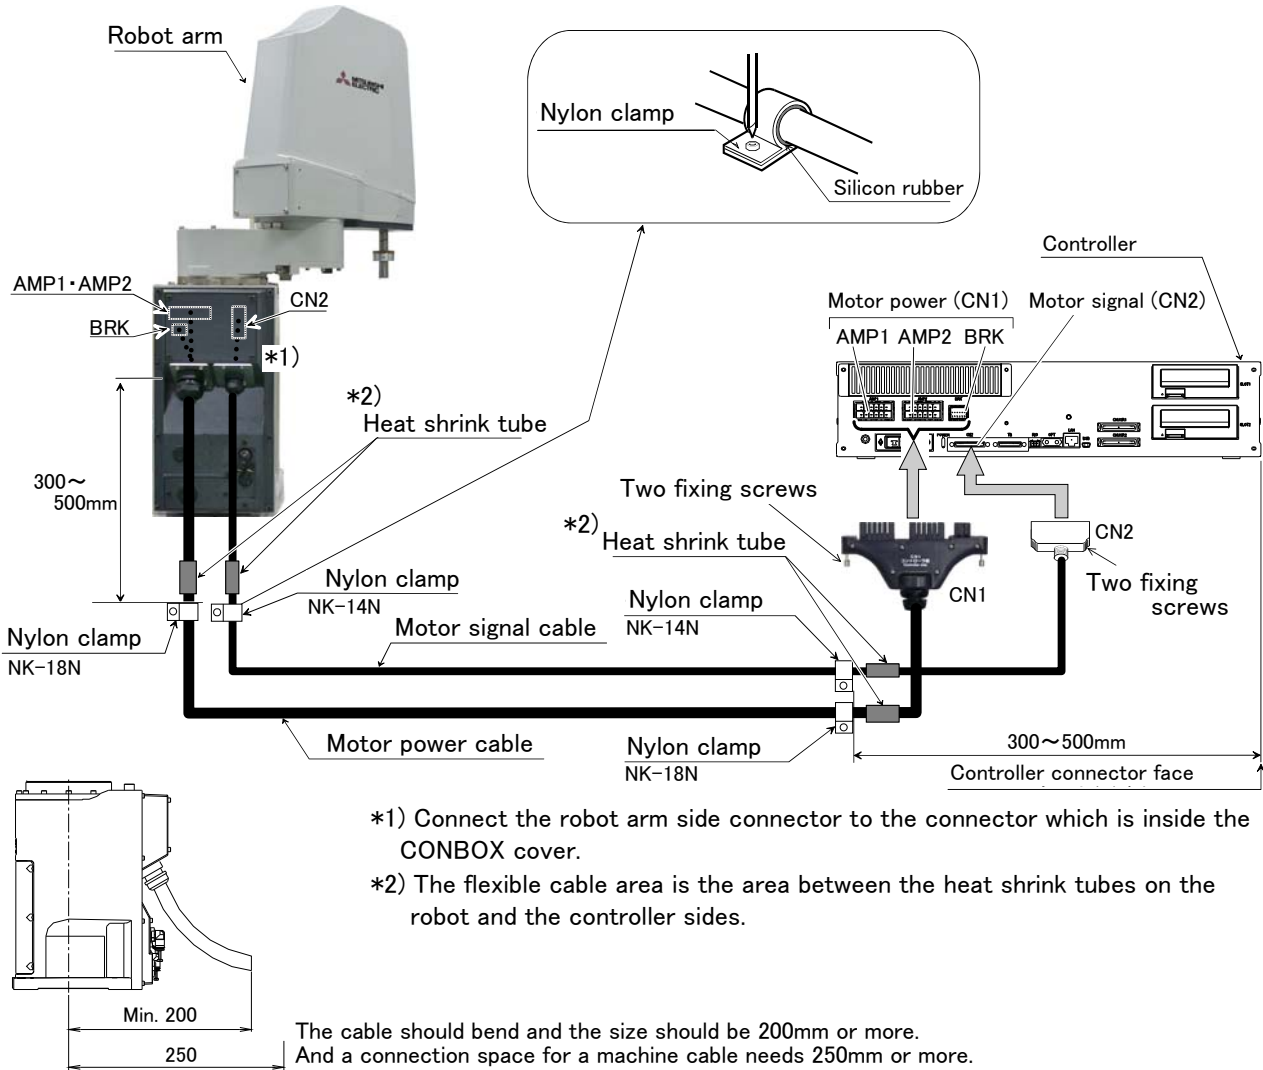

Fig.2-30 : Fixing the flexible cable (CR751)
- (1) Connect the connector to the robot arm.
- (2) For protection of wires from external stress, refer to Fig. 2-30. Wrap the cable with the supplied silicon rubber and fix the cable with nylon clamps in the area between the heat shrink tubes on the robot and the controller sides (flexible cable area).